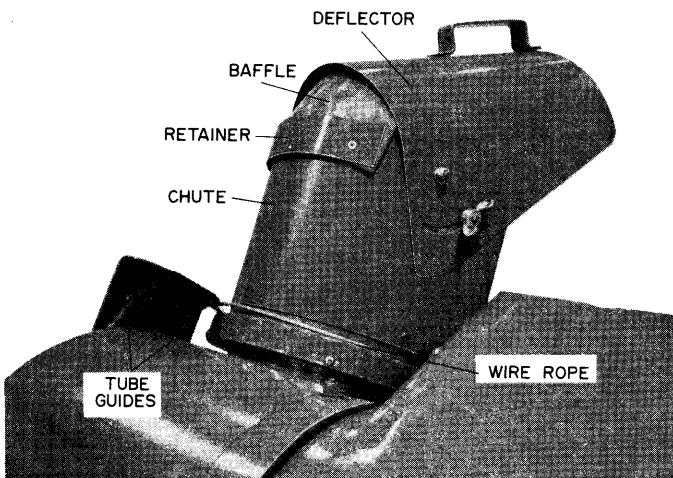

fig 2
8. Put a flatwasher, lockwasher, and wingnut on the adjusting stud, Item 15, 93 and 94. Make the wingnut finger tight. Deflector position is not important at this time, fig 2.